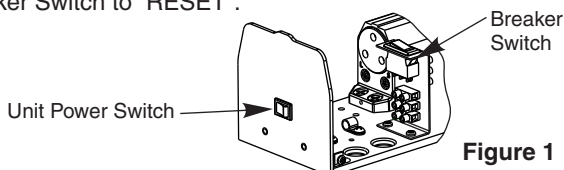

Figure 1
Step 9: Adjust closing power of unit (See Fig. 1) - Using a 1/8" allen wrench, turn the power adjustment shaft clockwise to increase door closing power. Door control is shipped set at midpoint of power setting. Maximum closing power can be achieved with 8 (360°) clockwise turns of the power adjustment screw.